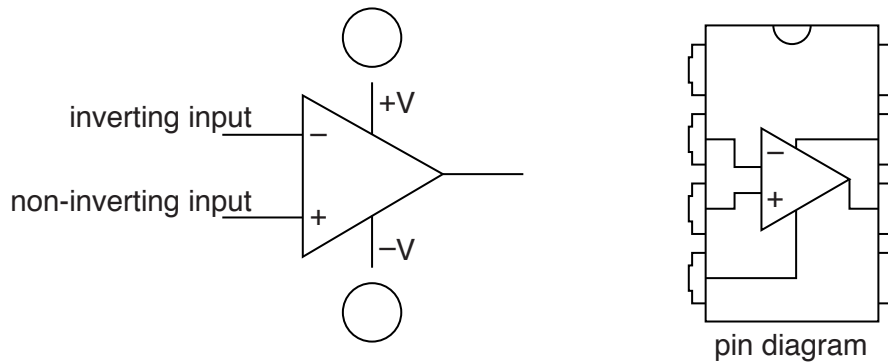

Fig. 18
- (c) Fig. 18 shows an operational amplifier symbol and the pin diagram of the IC that will be used to switch the watering system on when needed. The circuit will operate on a 6V single rail supply.